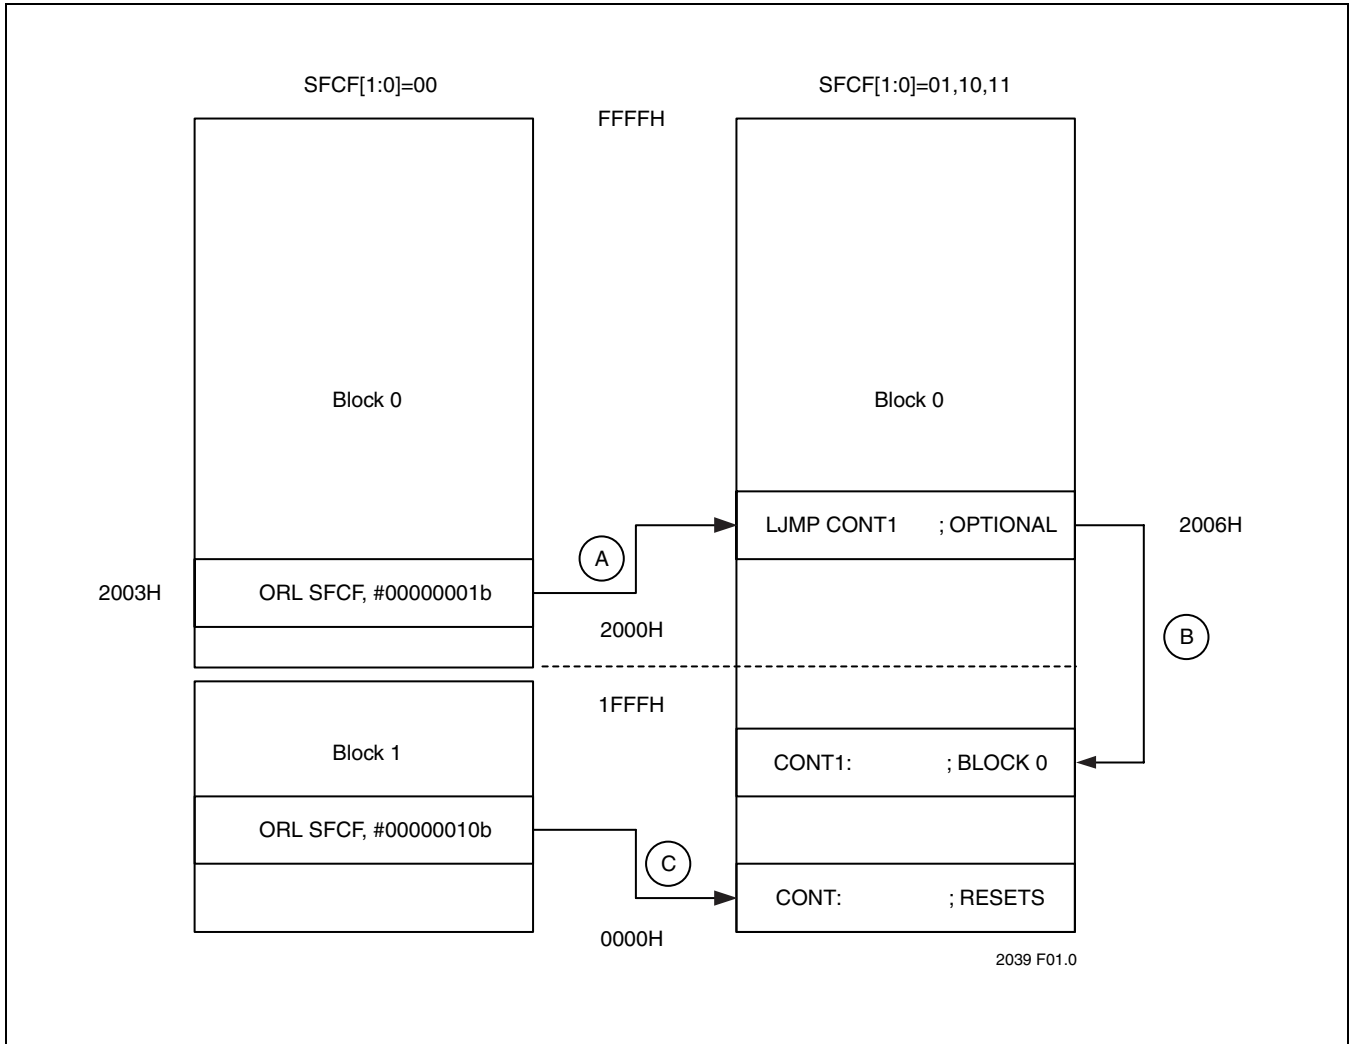

FIGURE 2-1: Switching Off Block 1 on the SST89E/V516RDx
Figure 2-1 demonstrates different ways that Block 1 may be switched off on the SST89E/V54RD. If code is currently executing in Block 0, then as path (A) shows, simply set the BSEL bit to disable Block 1. After switching the block 1 off, the PC will end up at the same address in the new block plus the number of bytes of the instruction. The subsequent instruction (B) may optionally jump back to the portion of Block 0 that was hidden by Block 1. If code is executing in Block 1, then as path (C) shows, the software reset bit may be used to reset the PC back to 0000H after switching off Block 1 and then resume execution in Block 0.